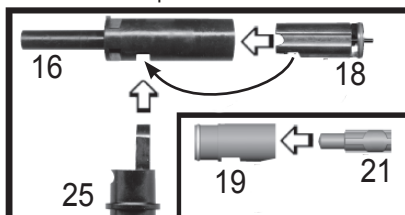

Figure 14: Power Tube and Rear Bolt
3. Lubricate the Valve's O-Ring, the **Rear Bolt O-Ring** (20), the **Linkage Arm** (15), and the **Drive Spring** (23)/**Guide Pin** (22) with a few drops of Tippmann marker oil before reinstalling.
4. Insert the Valve into the Power Tube, aligning the Valve Tombstone cutout (black arrow, Figure 14) down to match the Power Tube Tombstone cutout. Slide the Tombstone Adapter in and out to check for fit.
5. Insert the **Rear Bolt Plug** (21) into the **Rear Bolt** (19).
6. Insert the reassembled parts (Front Bolt, Power Tube/Valve, and Rear Bolt/Rear Bolt Plug) with the linkage arm on top. Insert fully until the **Tombstone** (25) can be inserted, the Push Pin reinstalled, and the Velocity Screw can be accessed. You may need to wiggle the marker while sliding the parts in.
7. Insert the Guide Pin (22) into the Drive Spring (23). Insert the Drive Spring into the Rear Bolt (19). Insert the End Cap (24) while keeping the Guide Pin centered in it. Install the upper Push Pin (44) to hold the End Cap in place.